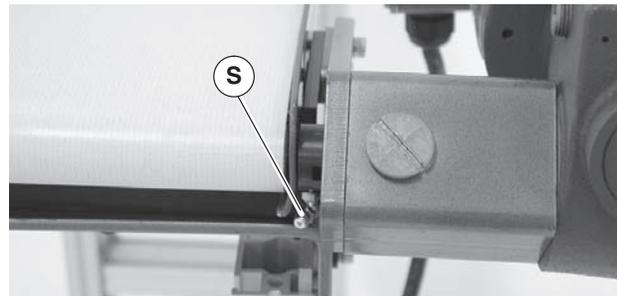

Figure 8
1. Locate the drive shaft grease fitting (Figure 8, item S). Lubricate pulley bearings through the grease fitting.